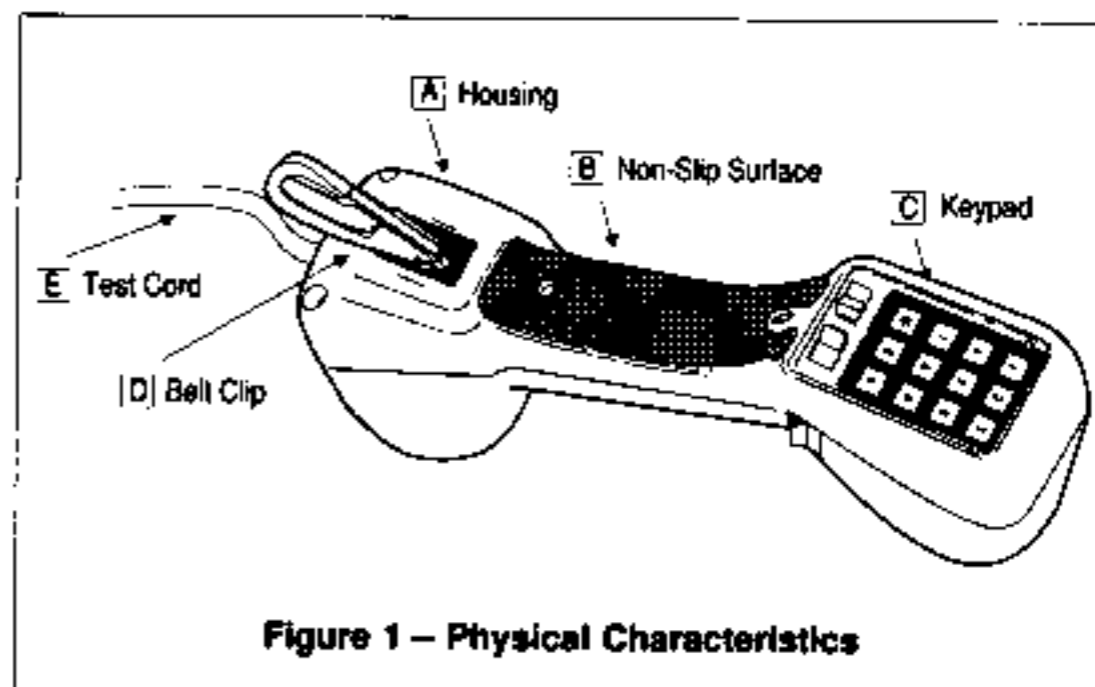

Figure 1 – Physical Characteristics
2.01 Physical Characteristics (Figure 1):
- (a) The housing (A) is injection molded of high impact polycarbonate which provides excellent insulating properties. The case is designed to give rugged service and withstand the rough handling and shocks normally associated with craft tools.
- (b) The back of the hand grip (B) is contoured and has a non-slip surface, freeing both hands while the Test Set rests on the shoulder.
- (c) The keypad (C) has 12 buttons on a black plastic bezel that is recessed into the receiver end of the housing. The recessed bezel provides physical protection to the keypad and prevents accidental button operation.
- (d) The spring-loaded belt clip (D), located on the transmitter end of the housing, ensures a secure connection to a belt loop or D-ring. The belt clip may be replaced in the field (see section 6.01).